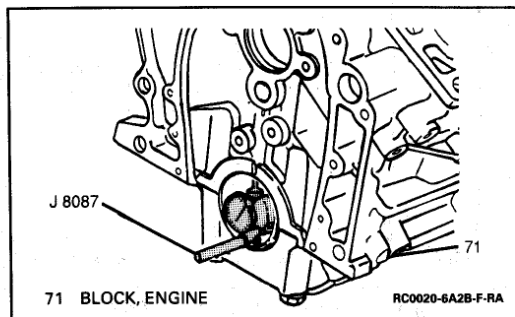

Figure 41 Measuring Bearing Bore
- B. Measure the bore for taper and out of round (Figure 41).